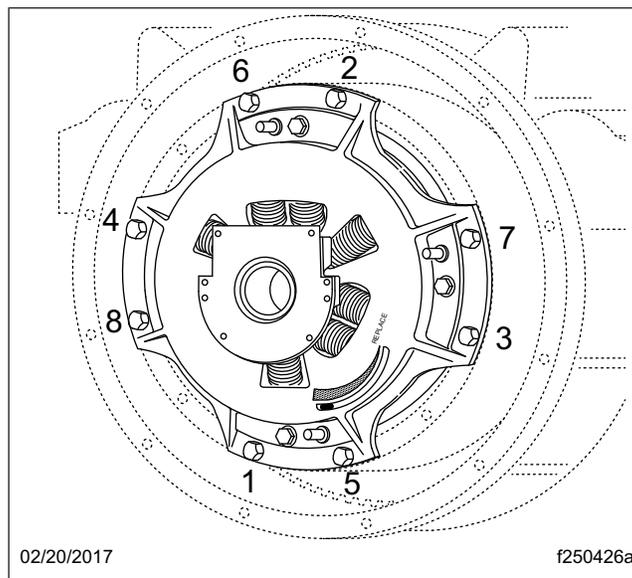

Fig. 7, Tightening Sequence
7. Progressively tighten the mounting bolts in a crisscross pattern starting with the lower left bolt. Torque to 45 lbf·ft (61 N·m). See Fig. 7.